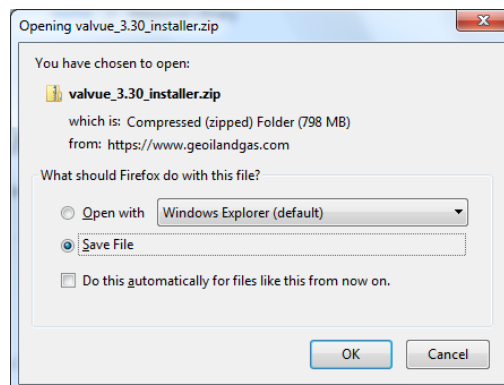

Figure 3 Opening Dialog
2. Use the arrows to move through the selections. Select **Download** below *ValVue V3.30 Installer Download* and Figure 3 appears.
2. Use the arrows to move through the selections. Select **Download** below *Masoneilan 12400 Level - DTM V2.20* and Figure 3 appears.